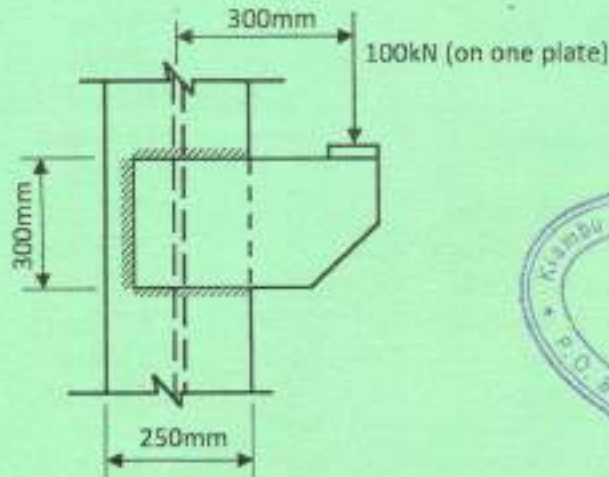

Figure 4
- (b) Determine the size of the fillet weld required for the eccentric welded connection shown in figure 4, given the information in table 4.